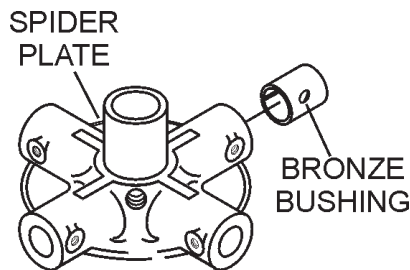

Figure 46. Bronze Bushings
- Examine the bronze trowel arm bushing insert (Figure 46), clean if necessary. Replace bushing if out of round or worn.